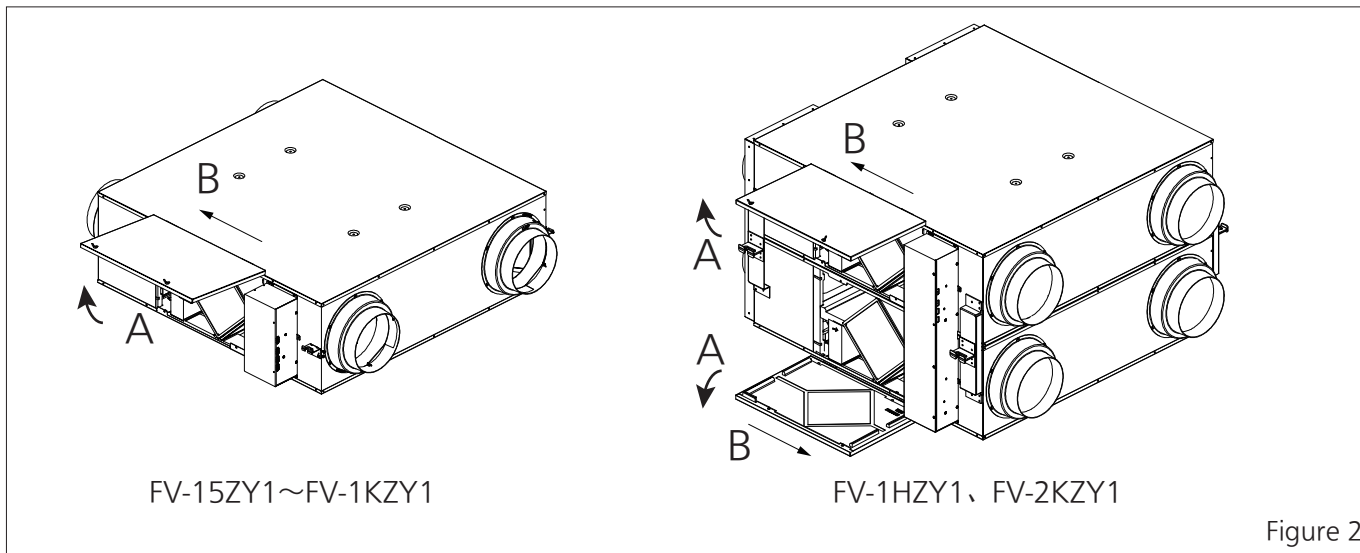

Figure 2
- ② Rotate the inspection cover along the direction indicated by arrow "A". Then slide and remove the inspection cover along the direction indicated by arrow "B". (Figure 2)